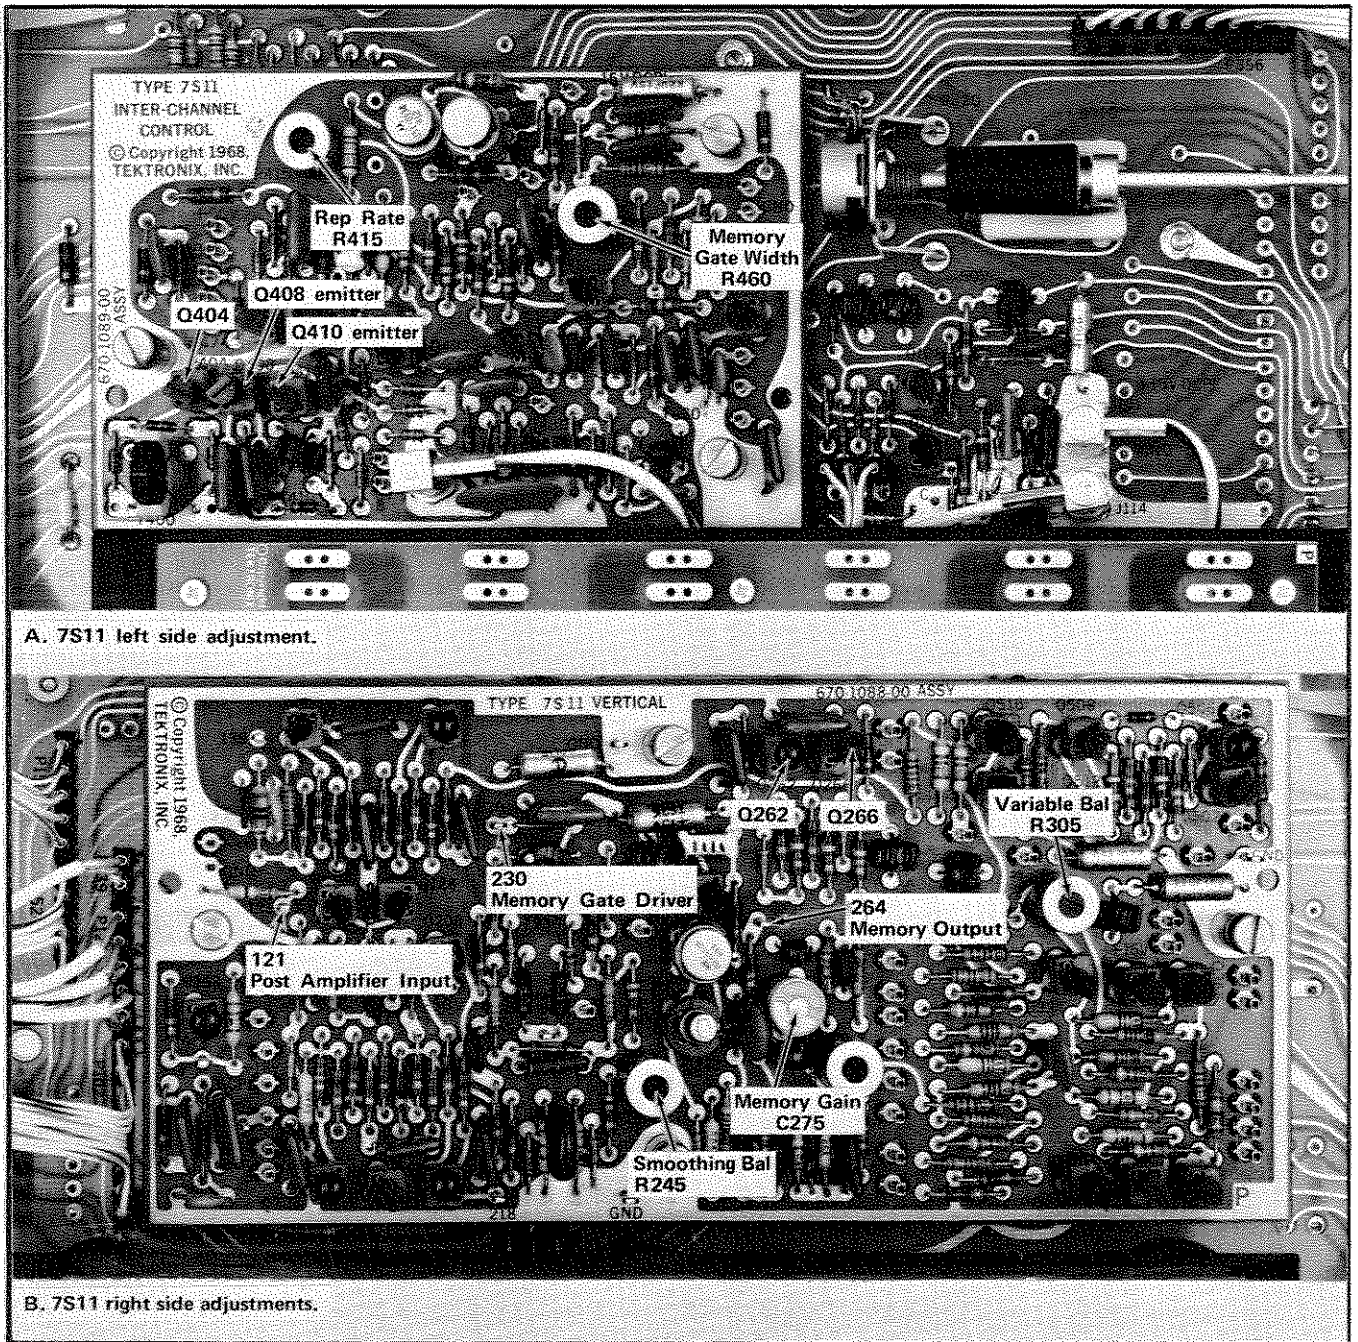

Fig. 6-7. Test points and adjustments, steps 4 through 13.
d. Adjust the Memory Gate Width control, R460, for maximum vertical separation between traces. See Fig. 6-7 for control location.
e. Connect the 7A13 10X probe to test point 230, the Memory Gate Driver, see Fig. 6-7.
g. Adjust the Memory Gate Width control R460, Fig. 6-7, for a Memory Gate between 160 ns and 180-ns wide at the 50% amplitude level.
h. Connect the 7A13 10X probe to test point 121, the Post Amplifier Input, see Fig. 6-7, and use a short ground lead (Tektronix Part No. 175-0249-00) to minimize ringing. Set the 7A13 Volts/Div switch to 10 mV.
j. Remove Q404, see Fig. 6-7, and obtain a stable, double-triggered display in such a manner that there are two, most defined, waveform traces, one positive and one negative, as shown in Fig. 6-8C. If not, change the real-time oscillator frequency by adjusting R415.
m. Adjust the Memory Gain control C275, see Fig. 6-7, for 5 divisions separation (2.5 divisions if not a Type S-1), similar to Fig. 6-8A.
- a. Remove Q262 and Q266, then short test point 264 to ground with a patch cord. See Fig. 6-7.
c. Adjust Variable Bal control R305 for minimum trace shift as the VARIABLE control is rotated throughout its range. See Fig. 6-7 for location of control.
b. Connect the 7A13 10X probe to test point 230, see Fig. 6-7.
d. Adjust Rep Rate control R415 for a period between $19 \mu\text{s}$ and $23 \mu\text{s}$. See Fig. 6-7 for location. See NOTE in Real Time Sampling on page 2-7 regarding this adjustment for Type S-5 Sampling Head use.